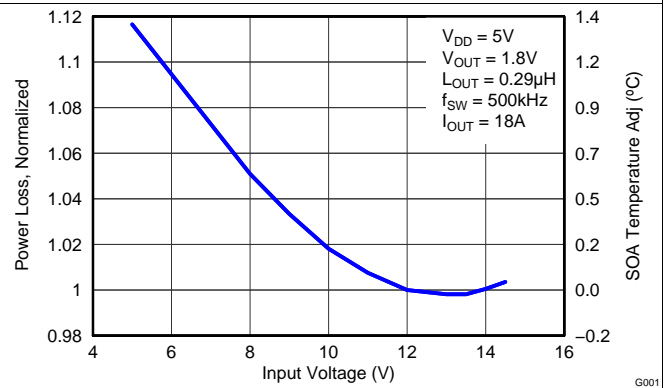

Figure 6. Normalized Power Loss vs Input Voltage
- Normalized Power Loss for input voltage ≈ 1.05 (Figure 6)
- SOA adjustment for input voltage $\approx 0.6^\circ\text{C}$ (Figure 6)